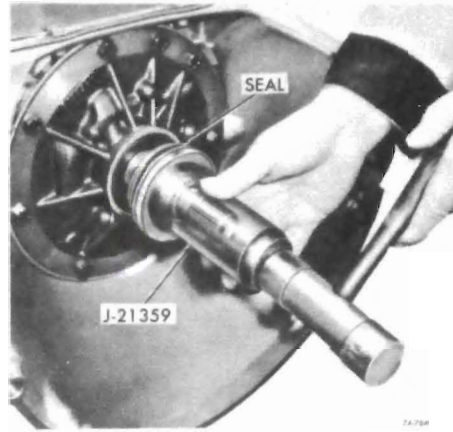

Figure 76-764
21. If necessary, install a new front seal, using Tool J-21359, to drive the seal in place. See Figure 76-764.